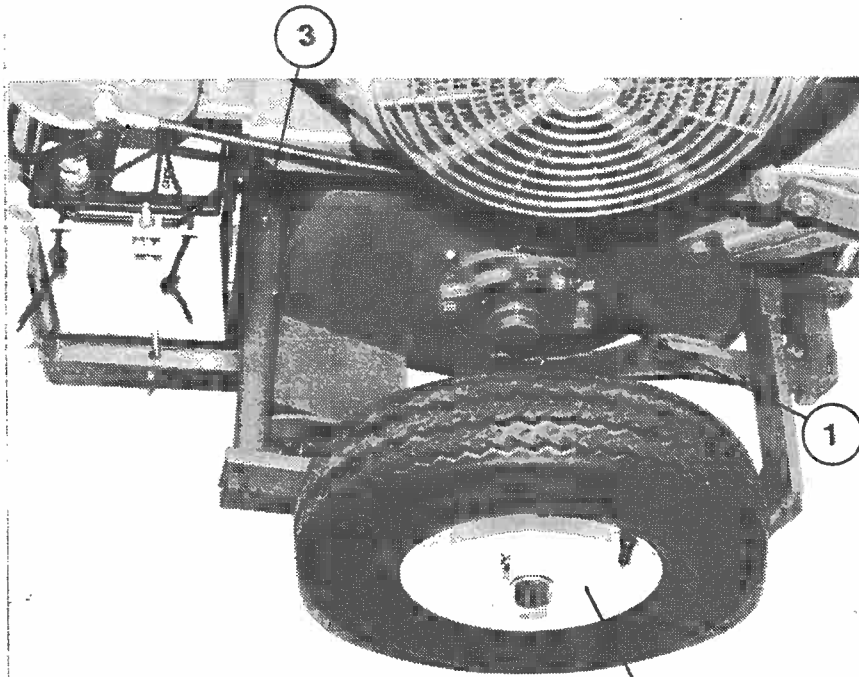

FIGURE 11
5. Lubricate cutter bearings [1] every 100 hours using multi-purpose grease. See Figure 11.